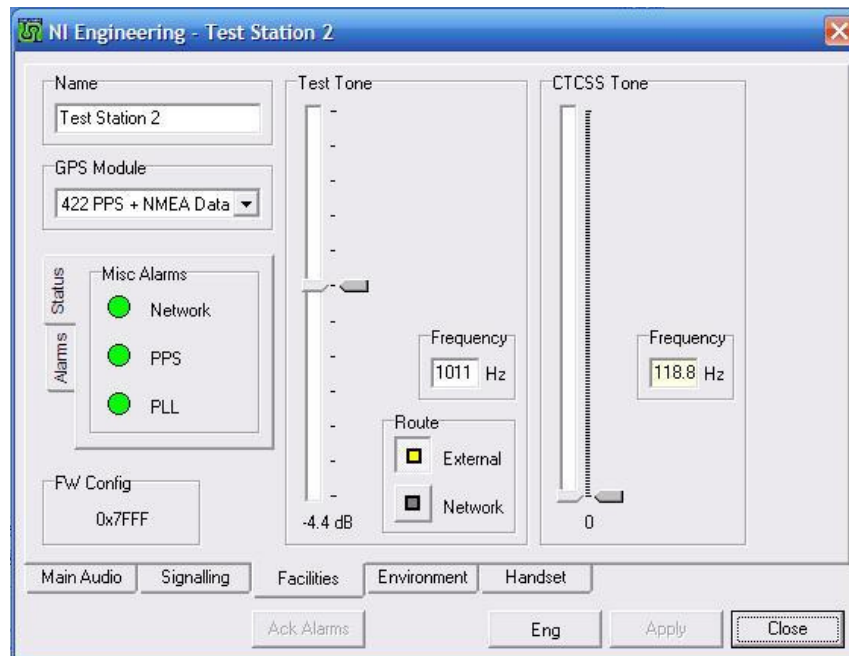

Figure 13. NI Engineering – Facilities tab, Test Tone settings.
15.2. On the “Facilities” tab, set the “Test Tone” to a frequency of 1011 Hz and to a level of –4.4 dB. Set the “CTCSS Tone” level to 0 (see **Figure 13** below).